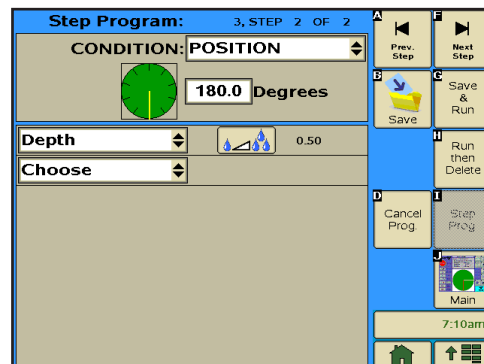

Figure 158-2
8. Program the position condition for this step. Refer to Figure 158-2.